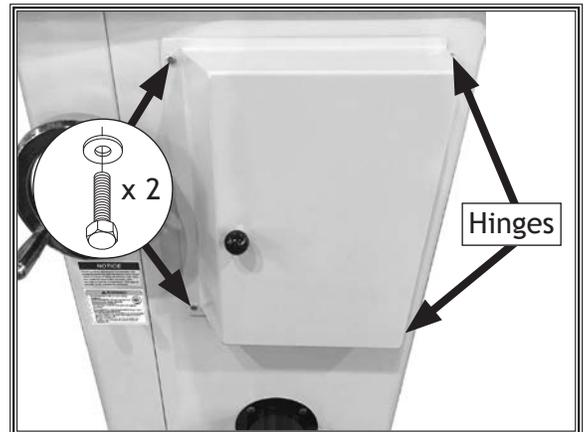

Figure 30. Cabinet access door installed.
27. Attach cabinet access door to hinges (see **Figure 30**) and secure with hinge pins.
28. Remove (2) hex bolts and flat washers (see **Figure 30**) from right-hand side of cabinet. Close access door and secure with hex bolts and flat washers.